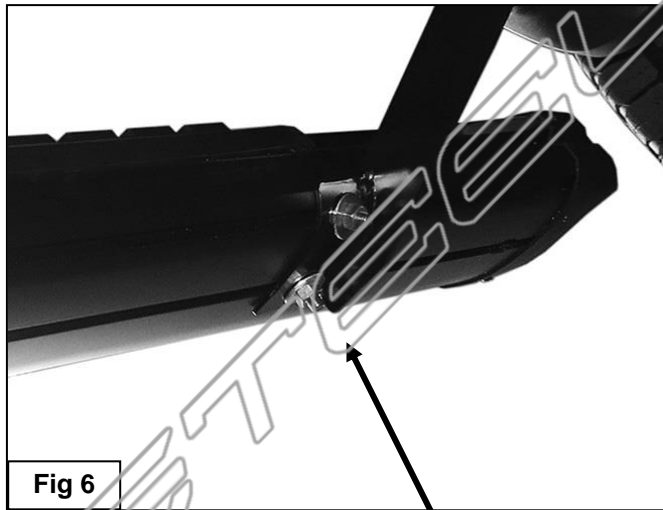

Fig 6
7. Line up the front of the Sidebar approximately 2" back, (or locate as desired), from the front wheel opening. Attach the Sidebar to the Mounting Brackets with (6) 8mm Flat Washers, (6) 8mm Lock Washers and (6) 8mm Hex Nuts, **(Figure 6)**. Do not tighten hardware at this time.